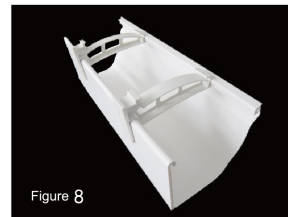

Figure 8
A. Gutter hanger is used to fix gutter on the cornice (Figure 8), fix it in the gutter along the gutter end port and control a proper space between the hangers, generally not less than 50 cm.